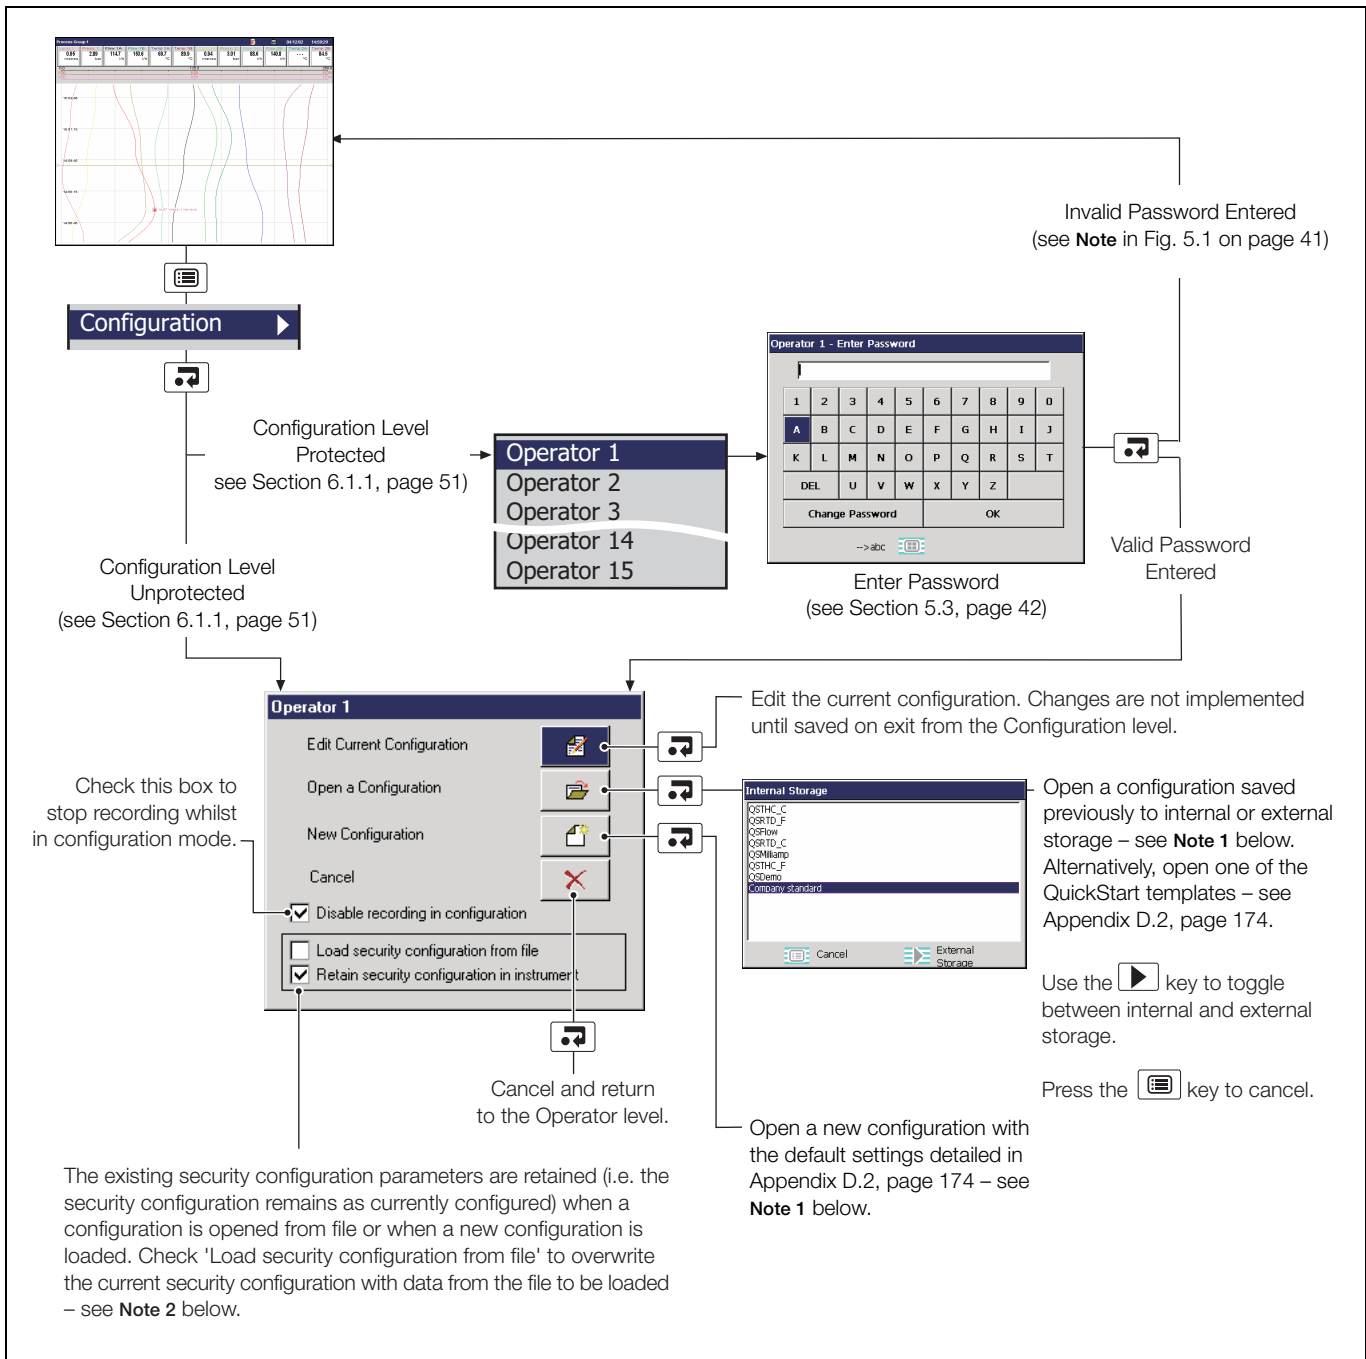

Fig. 6.1 Accessing the Configuration Level
The Configuration level cannot be accessed until the correct password has been entered – see Fig. 6.1, page 52.
6.1.2 Configuration Level Access – Figs. 6.1 and 6.2
- Access the Configuration Level – see Fig. 6.1, page 52.
- Make changes to parameters as detailed in Figs. 6.1 and 6.3.